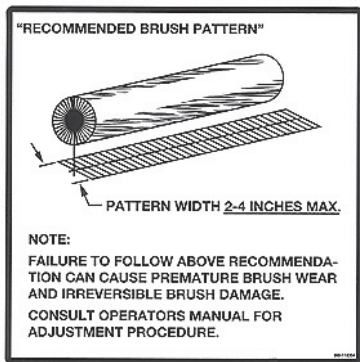

Figure 5 Brush Sweeping Pattern
5. Check the width of the swept area. The brush pattern should be 2-4 inches wide, running the length of the brush. (See Figure 5 Brush Sweeping Pattern)